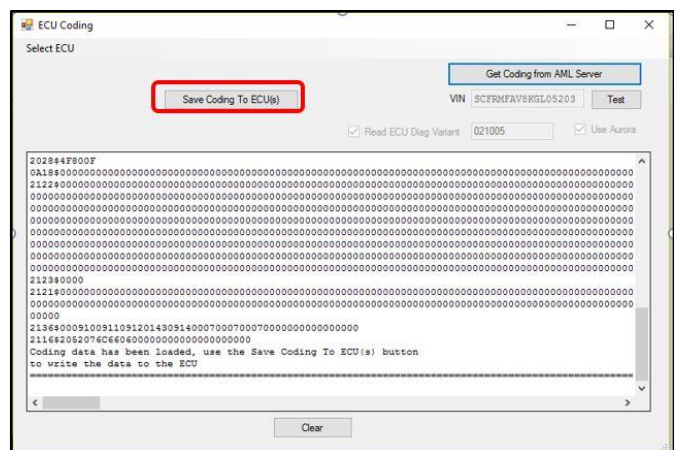

Figure 6
- 11. Select 'Save Coding to ECU(s)' (refer to Figure 6).